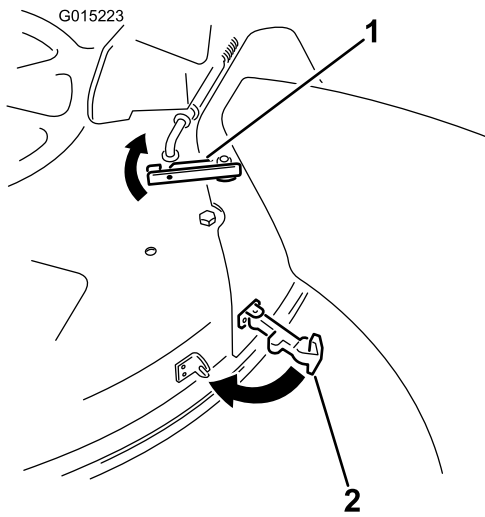

Figure 23
6. On the top of the chute, engage the upper latch around pivot rod of the deflector assembly as shown in Figure 23.
7. Secure the chute to the deck. Hook the flexible latch on the chute to the retaining clasp welded on the mower deck to the rear of the opening (Figure 23).